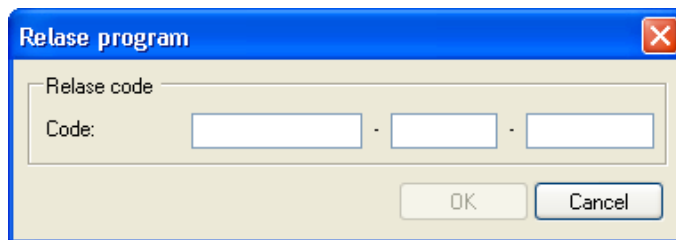

Fig. 12: Window for releasing the program
- Connect the data-exchange cable first to the charging adapter (port for PC connection cable, see fig. 12) and then to your computer.
- Connect the cable of the power supply unit to the charging adapter (connector for power supply, see fig. 12).